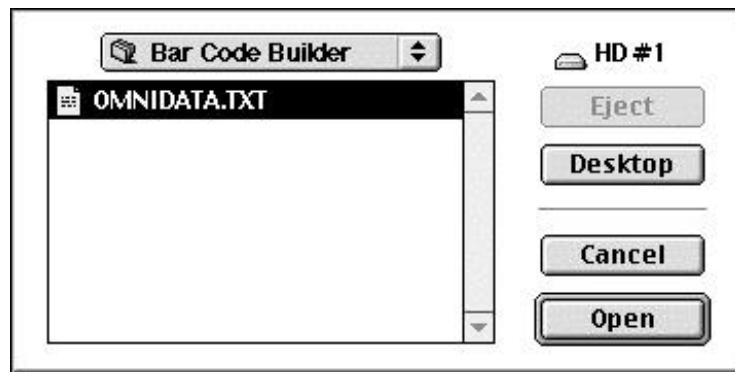

Figure 2-13 Open OMNIDATA.TXT
4. Open the data file called **OMNIDATA.TXT**. See Figure 2-13.